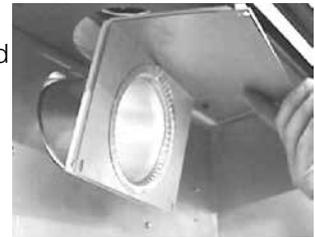

Fig. 2
- Secure the flue collar assembly, gasket, and baffle bracket using the four hex head 3/8" thread cutting screws (**Fig. 2**).